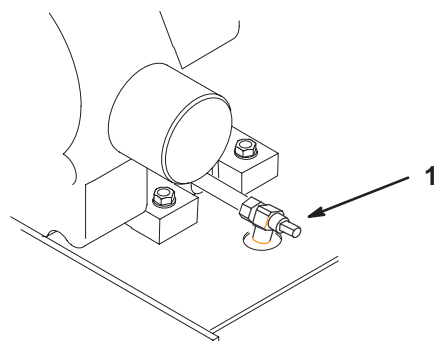

Figure 38
3. Place a pan below the oil drain. Use either a flat screw driver, 3/8 inch or 10 mm wrench to open valve (Fig. 38).
4. Rotate valve end clockwise to close valve. Rotate valve end counterclockwise to open valve (Fig. 38).